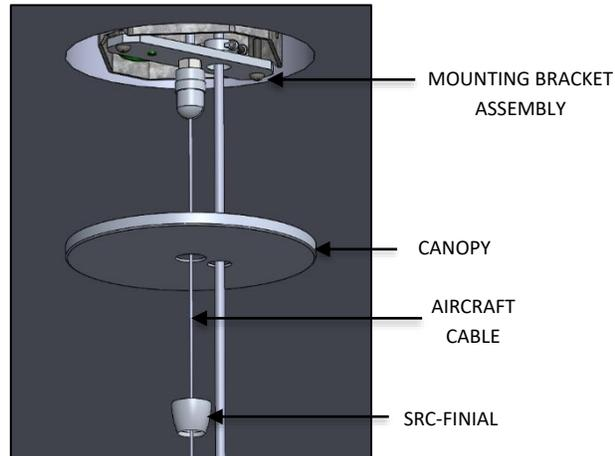

FIG. 19 - CANOPY INSTALLATION
9. Raise CANOPY and secure to ceiling by threading the FINIAL to the GRIPLOCK until fully seated as shown in FIG. 19.